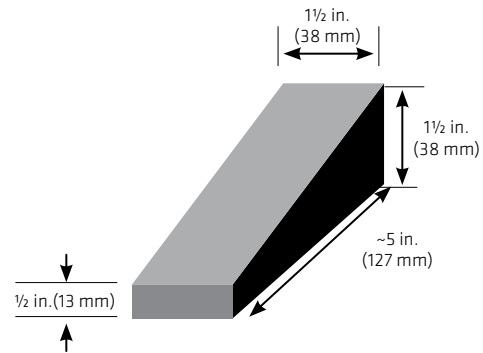

FIGURE 3: Temporary wooden wedge: two per horizontal joint required on 5 x 5 panel walls and four per horizontal joint required on 5 x 9 and 5 x 10 panel walls.
- ▶ Hardwood wedges (Figure 3)